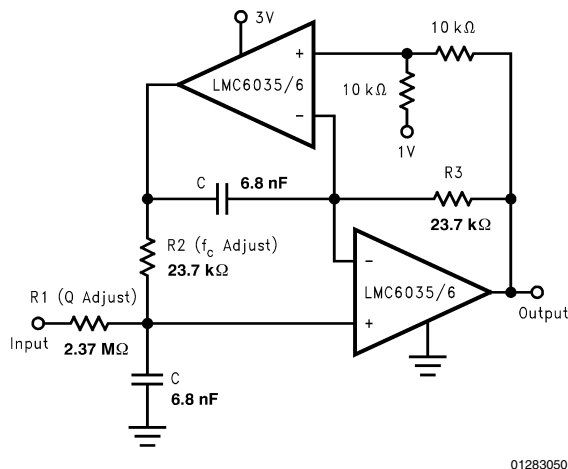

FIGURE 7. 2 Pole, 1kHz Active, Bandpass Filter
The dual amplifier bandpass (DABP) filter features the ability to independently adjust f_c and Q . In most other bandpass topologies, the f_c and Q adjustments interact with each other. The DABP filter also offers both low sensitivity to component values and high Q s. The following application of Figure 7, provides a 1kHz center frequency and a Q of 100.
1. First choose a center frequency (f_c). Figure 7 represents component values that were obtained from the following computation for a center frequency of 1kHz. $R_2 = R_3 = 1/(2\pi f_c C)$ Given: $f_c = 1\text{kHz}$ and $C_{(\text{chosen})} = 6.8\text{nF}$